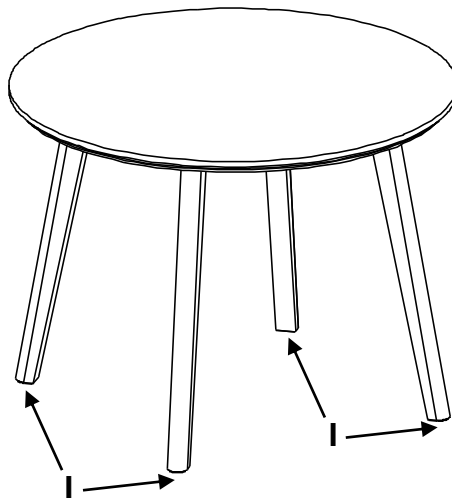

Fig. 2
2. Turn the table upright and place at its final destination. To level the table, rotate the Adjustable Glide (I) found at the bottom of each leg. See Figure 2.